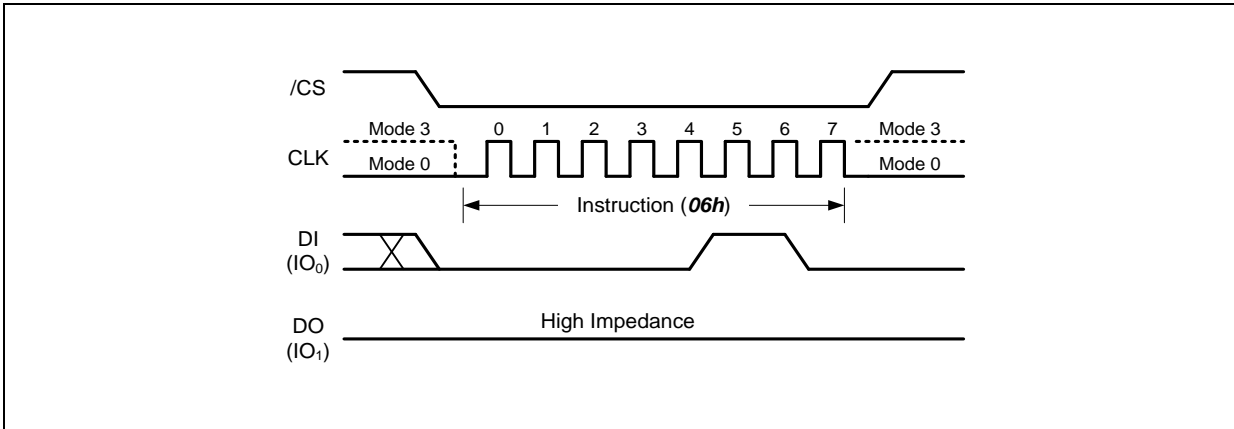

Figure 9. Write Enable Instruction
The Write Enable instruction (Figure 9) sets the Write Enable Latch (WEL) bit in the Status Register to a 1. The WEL bit must be set prior to every Page Program, Quad Page Program, Block Erase, Chip Erase and Bad Block Management instruction. The Write Enable instruction is entered by driving /CS low, shifting the instruction code "06h" into the Data Input (DI) pin on the rising edge of CLK, and then driving /CS high.